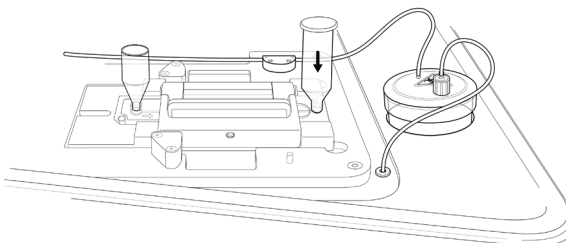

Fig. 27. Insert the Genesis Priming Reservoir.
2. Insert the Genesis Priming Reservoir into the outlet port of the assembled slide station (Figure 27).